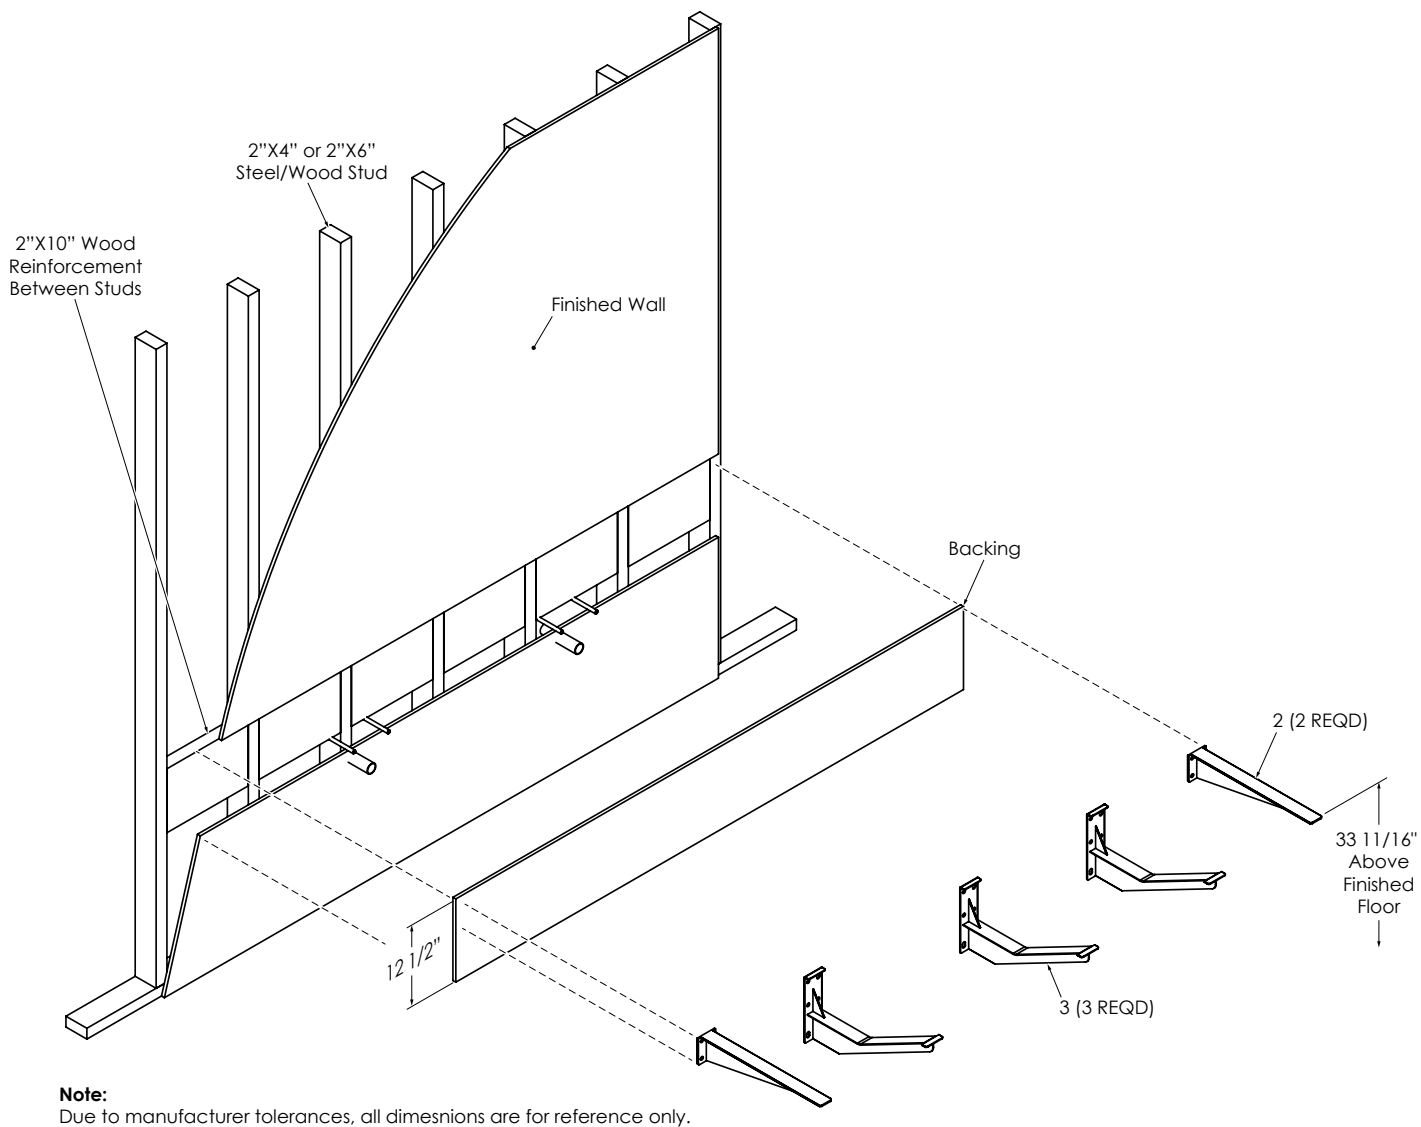

Figure 10
9. Install Backing (Figure 10) onto wall studs.
10. Mount the Side and Middle Brackets (2, 3, Figure 10) to the backing. Ensure that Side and Middle Brackets (2, 3) are level and the proper distance from the floor.